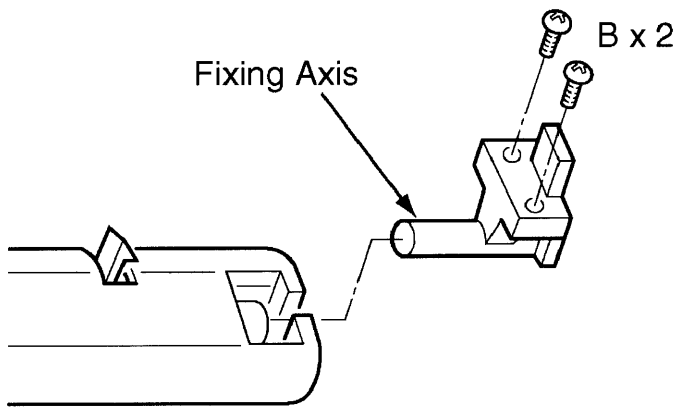

Figure-11
- Remove the fixing axis mounting screws (B 2 pcs.) as shown in Figure-11.